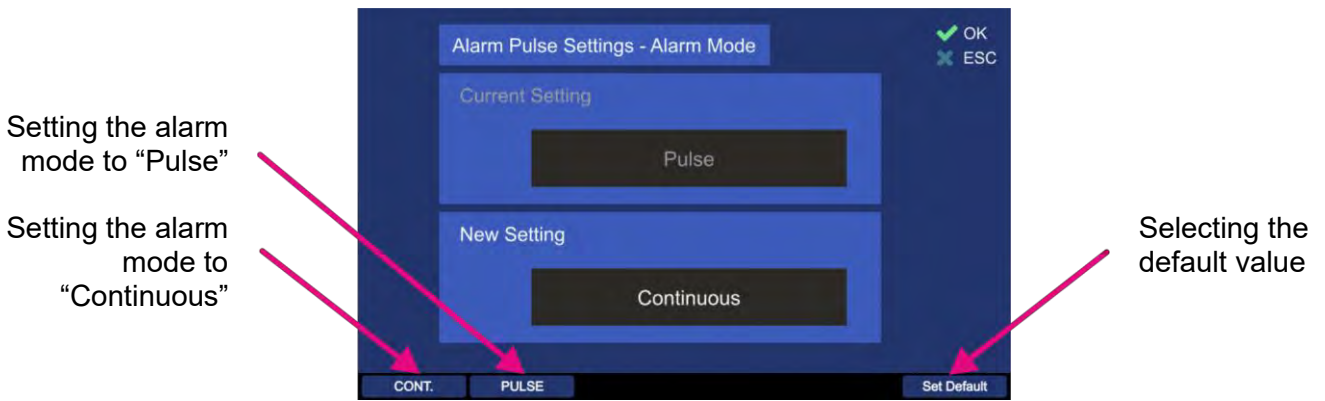

Figure 91. Alarm mode dialog
- By pressing the hotkey “Edit Value”, the dialog for changing the alarm mode of the alarm output will be opened. The handling of this dialog is shown in Figure 91.